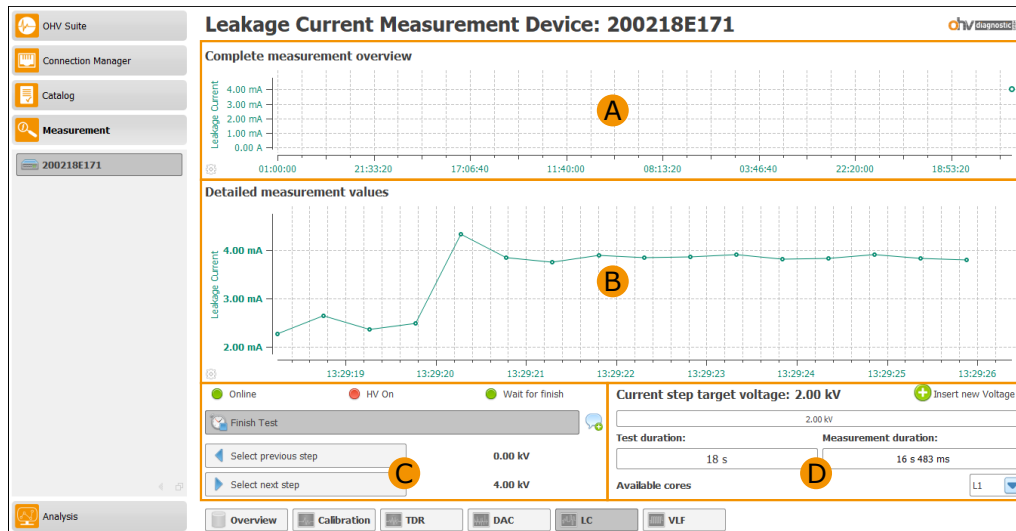

Figure 7.40: Leakage current measurement overview
This chapter describes the surface elements that are available for a leakage current measurement (LC). Figure 7.40 shows the general structure of the measurement surface. **A** shows the complete course of the LC measurement. In the area **B** the more detailed course for the leakage current is displayed. The **C** area contains buttons that can be used to navigate within a procedure and the button to start the test. **D** is used to display current data.
**A** in Figure 7.40 shows the complete course of the leakage current during the test in a diagram. Thus all 30 s a new value is added. The added leakage current value is the maximum of the leakage current since the last addition.
**B** in Figure 7.40 shows the more detailed curve of the leakage current in a diagram. Thus all 500 ms a new value is added. The added value is the current leakage current at that time. The maximum display time for this diagram is 1 min.
**C** in Figure 7.40 shows elements (cf. Table 7.21) that are needed to perform a leakage current measurement.
in Figure 7.40 displays the current values for the leakage current measurement.